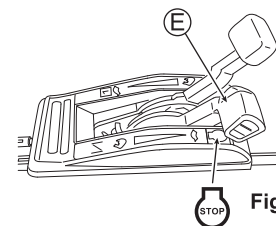

Fig. 14
2. Set the throttle lever (E) to "STOP". (See Fig. 14)